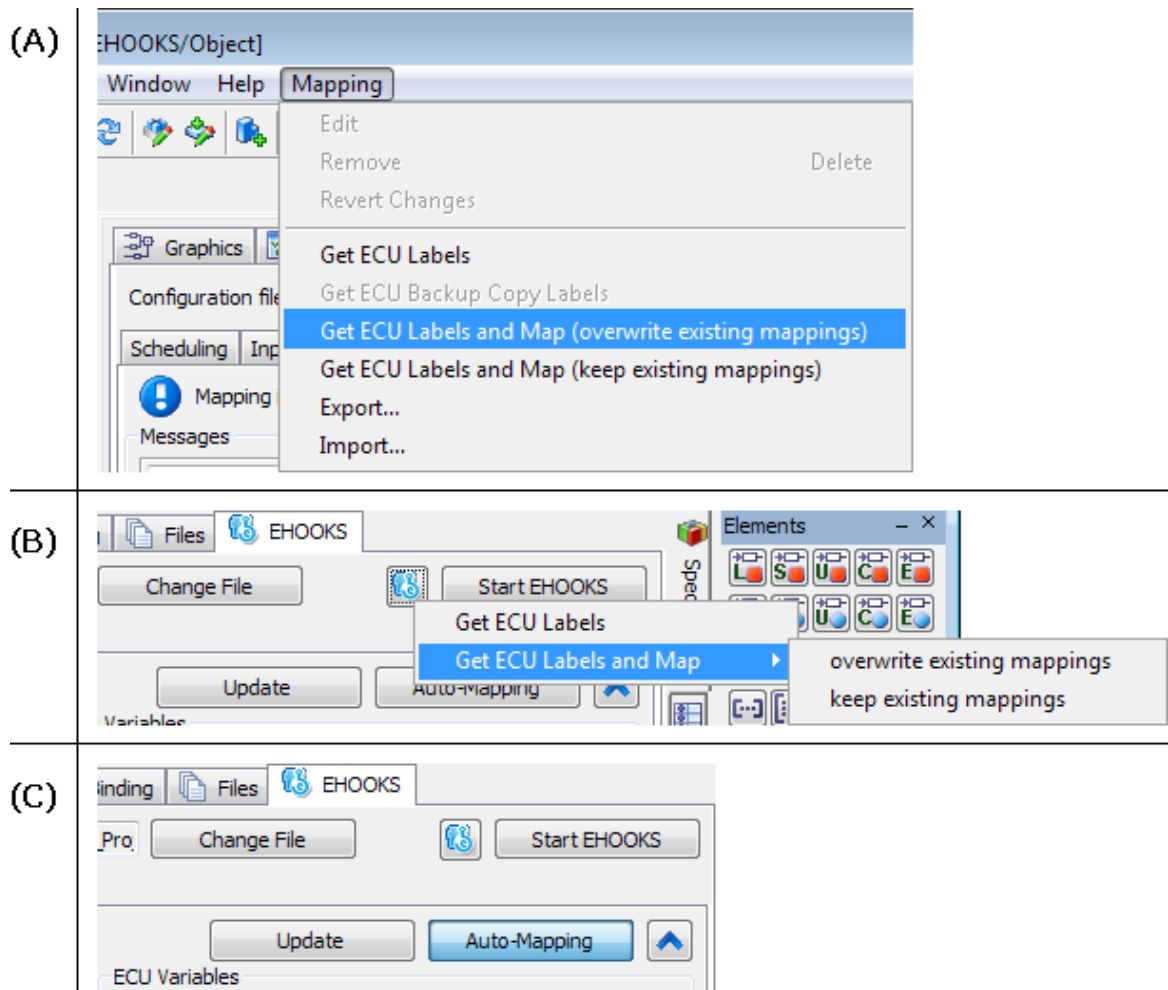

Figure 4.19: Accessing auto-mapping
Auto-mapping is accessed via the **Mapping** menu, the **Open EHOOKS functions** button or the **Auto-Mapping** button ((A) – (C) in Figure 4.19 on page 37).